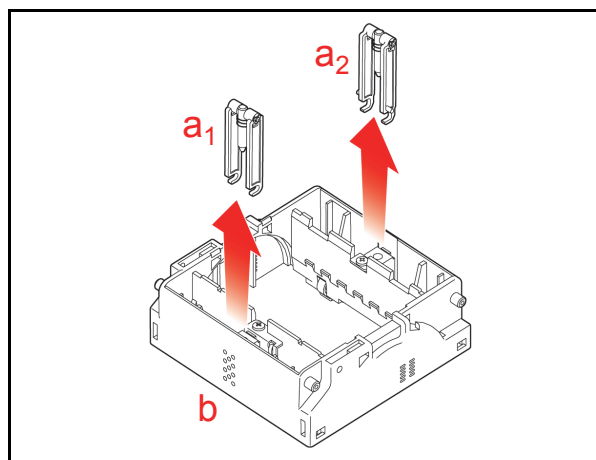

Figure 4-18 Lower Guide Lever Removals
5. Next, remove the two (2) Guide Levers (See Figure 4-18 a₁ & a₂) from the Lower Base Assembly (See Figure 4-18 b).